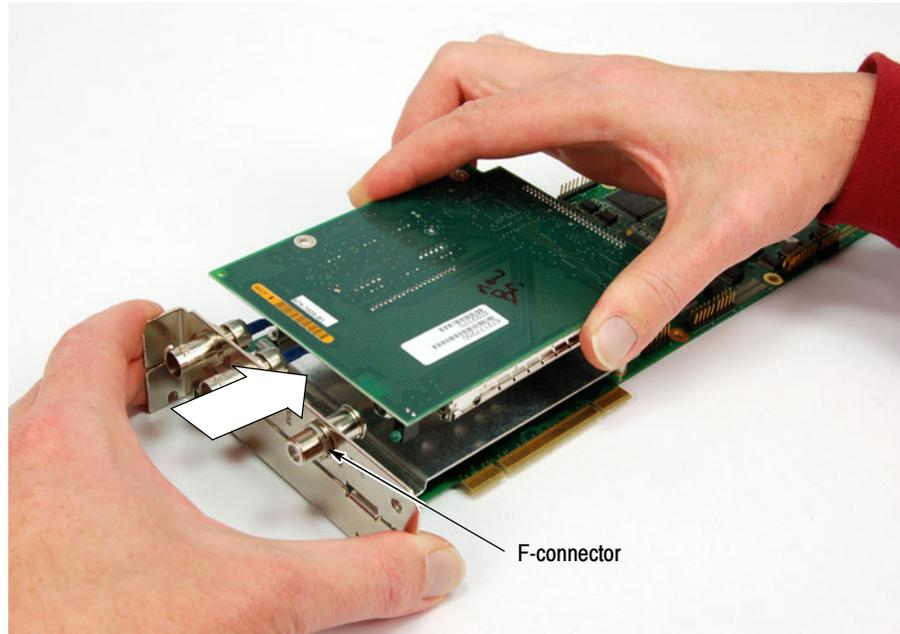

Figure 17: Disengaging the F-connector from the top circuit board
12. Grasp the rear panel on the interface module, and then slide the top circuit board away from the rear panel until the F-connector is disengaged from the circuit board (see Figure 17).